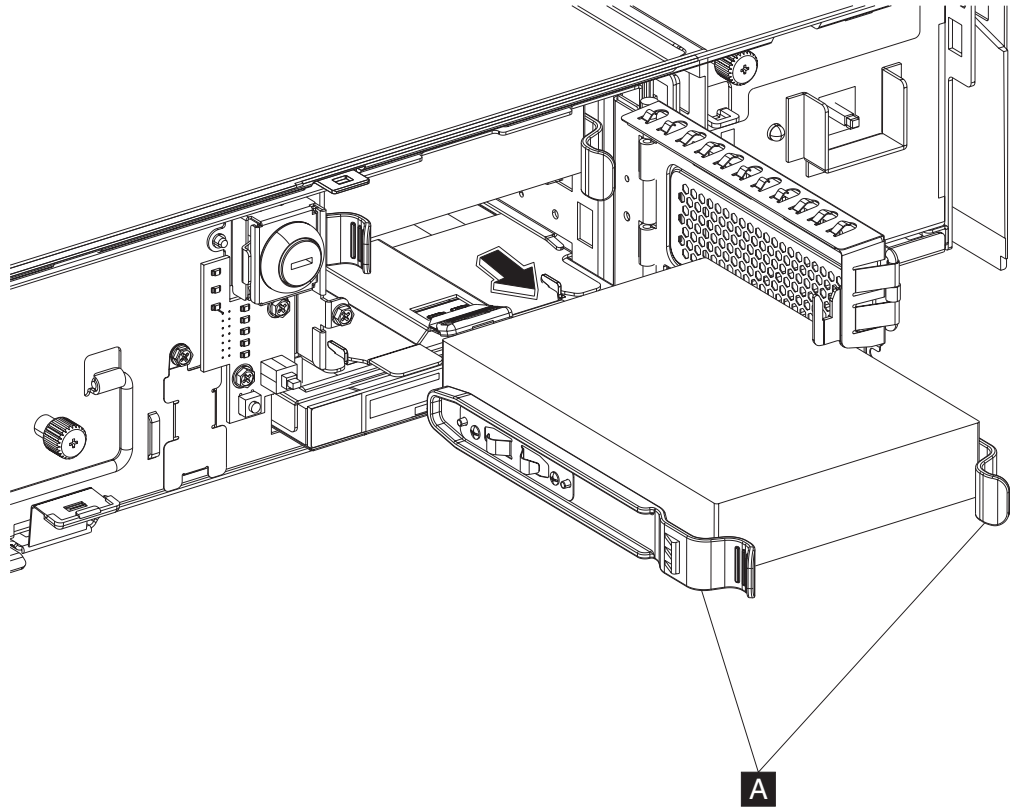

Figure 25. Removing a hard disk drive
2. Squeeze the two blue drive rail lock tabs (**A** in Figure 25) inward and pull to remove the hard disk drive on its rails.